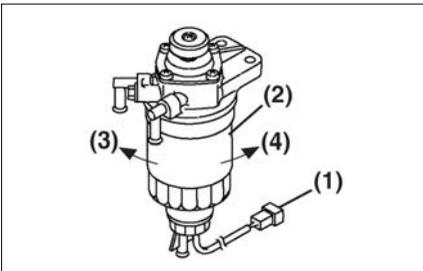

Figure 5-14
3. Disconnect the fuel filter sensor connector (Figure 5-14, (1)).
6. Remove the fuel filter (Figure 5-14, (2)) by turning it to the left (Figure 5-14, (3)). Wipe up all spilled fuel.
17. Install the new fuel filter (**Figure 5-14, (2)**) by turning it to the right (**Figure 5-14, (4)**) until it contacts the mounting surface. Tighten one additional turn.
19. Reconnect the fuel filter sensor connector (**Figure 5-14, (1)**).